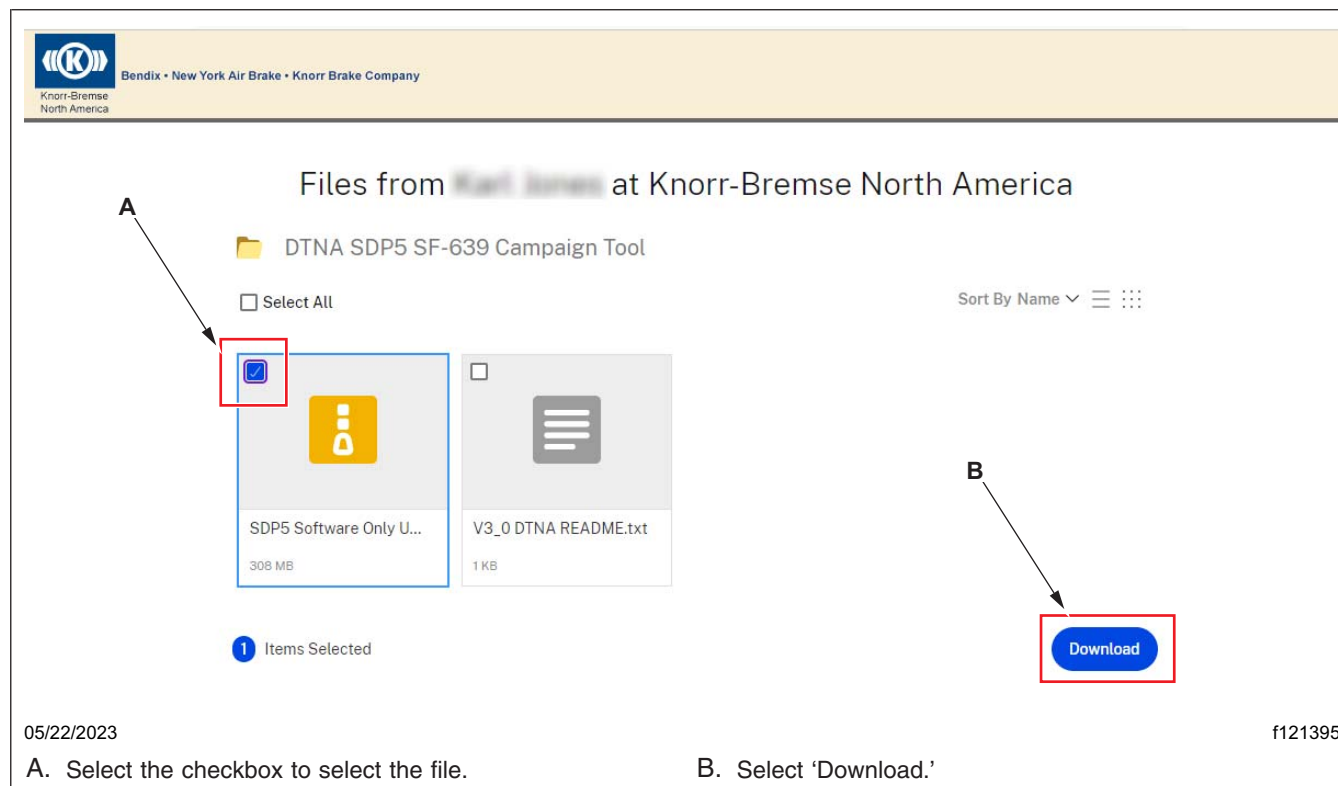

Fig. 2, Starting Download
4. Select the checkbox corresponding to the 'SDP5 Software Only U...' zip file, indicated by the larger file size than the other file. Select 'Download.' See Fig. 2.